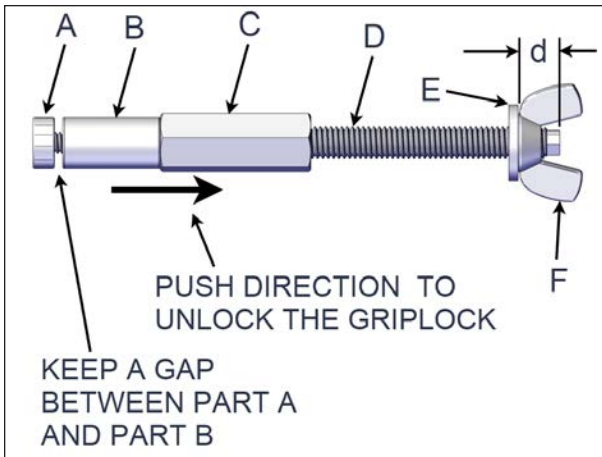

FIGURE 59: GRIPLOCK DEVICE
1. Install the Griplock completely into the hexagonal coupling nut, see Figure 59.
4. Ensure that the washer and the wing nut are mounted at the minimum distance of $d=1/2"$, see Figure 59.
5. Keep a gap between part A and part B as shown in Figure 59
6. Push on the Griplock nut according to the specified direction to unlock the mechanism, see Figure 59.
If the Griplock assembly does not fit easily, it must be because the Griplock nut ("A" in Figure 59) has not been loosen enough.